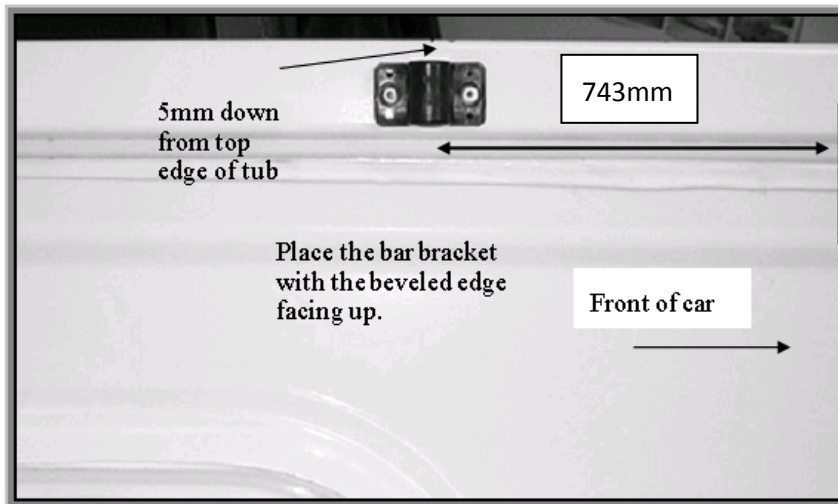

Figure 2: Placement of bar bracket
6. To fit the bar brackets, measure 700mm back from the inside front edge at the top of the tub and place them as shown in Figure 2. (5mm down from top edge of tub) Drill and rivet using two large rivets for each Bar Bracket. Install the support bar according to the supplied instructions.